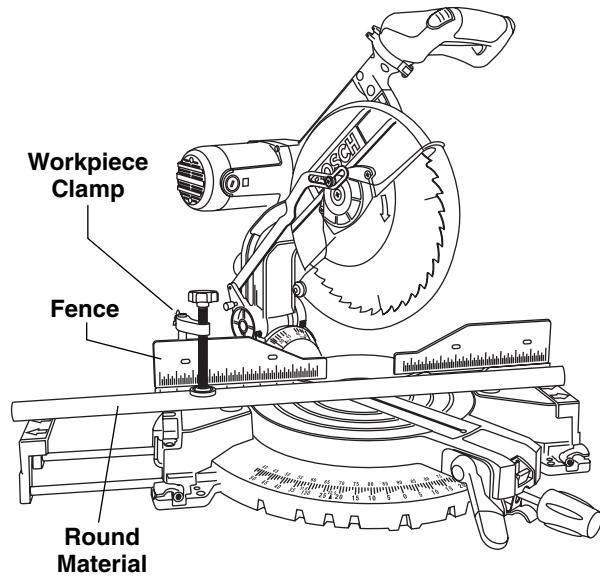

Figure 2. Round Material
**! WARNING** For round material such as dowel rods or tubing, always use a clamp or a fixture designed to clamp the workpiece firmly against the fence and table. Rods have a tendency to roll while being cut, causing the blade to "bite" and pull the work with your hand into the blade (Figure 2).